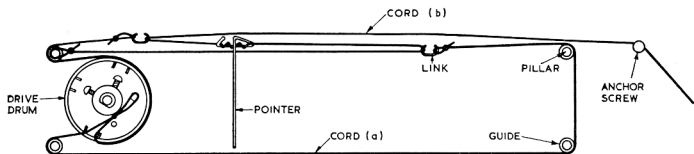

Fig. 3.
2. Close the tuning gang and adjust the drive drum to the position as shown in figure 3.
3. Fit cord (a) and then cord (b) as shown in Figure 3.
4. Fit the pointer as shown in Figure 3 so that it lines up with the low frequency end of the tuning scale, when the scale is temporarily placed in position.